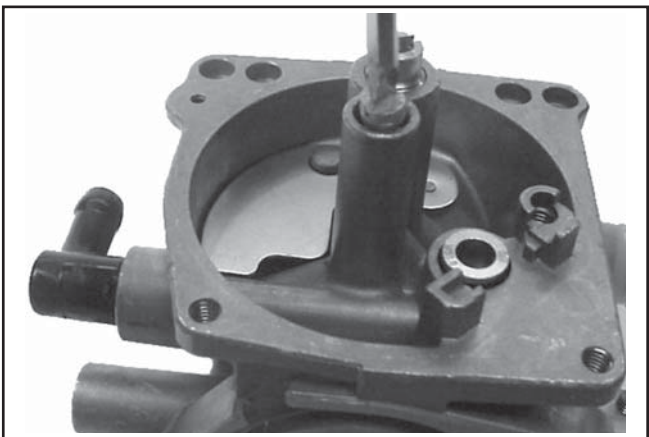

Figure 5-19. Installing Slow Jet.
9. Install the slow jet and new plug into end of slow jet tube. See Figures 5-19 and 5-20.